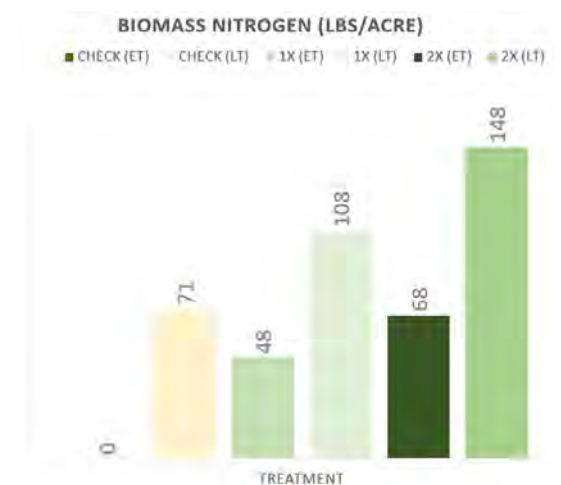

Figure 4. Biomass nitrogen expressed in lbs/acre. Samples taken in silt loam soil.
The biomass nitrogen, expressed in lbs/acre, compares the 3 seeding rates (check, 1X, 2X) and the earlier terminated treatments (ET) to the later terminated treatments (LT) (Figure 4). ET treatments measurement were taken on 4/26/21, and the LT treatments were taken on 5/17/21, both sampled just prior to termination of the respective treatments. The treatments were then planted with the cash crop (corn) shortly after 5/17. In general, the ET treatments had less nitrogen to potentially provide the cash crop compared to the LT treatments and the 2X, LT treatment could potentially provide the most nitrogen to the following cash crop.